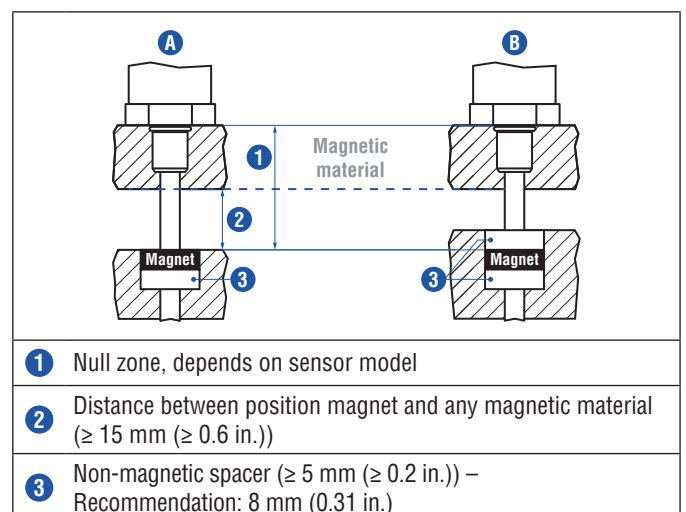

Fig. 15: Installation with magnetic material
- If no other option exists and magnetic material is used, observe the specified dimensions (Fig. 15).
When using magnetic material the dimensions of Fig. 15 must be observed.